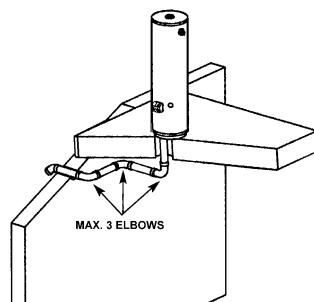

Figure 25: Air Intake
- The intake air vent piping can be installed with no more than 3 elbows. See Figure 25.